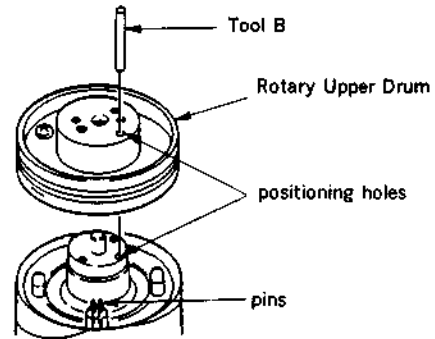

Fig. 3
- (1) Clean the flange surface of the Lower Drum and the contact point of the new Rotary Upper Drum with a cleaning piece. Check that no dust or flaw are left.
- (2) While adjusting the positional relationship of the Rotary Upper Drum and positioning hole with the tool B, insert the Rotary Upper Drum lightly. At this time, Check that the terminals project out from the PC Board of the Rotary Upper Drum. When the terminals are caught, correct them with a pair of tweezers, etc.. Remove the tool B and lightly push the Rotary Upper Drum by hand. If the Rotary Upper Drum does not down to the botom, thread the two fixing screws to the Rotary Upper Drum alternately, but do not tighten them. Insert the tool B in the positioning hole and check that the tool B can be inserted smoothly again. If the tool B can not be inserted, loosen the two screws (M 2 x 5) and adjust the position of the Rotary Upper Drum by precision screwdriver. (fig. 3 and 4)
- (3) Tighten the two hexagon screws (M2 X 5).
- (4) Assemble the parts with Removal Steps (1) to (4) in reverse order.